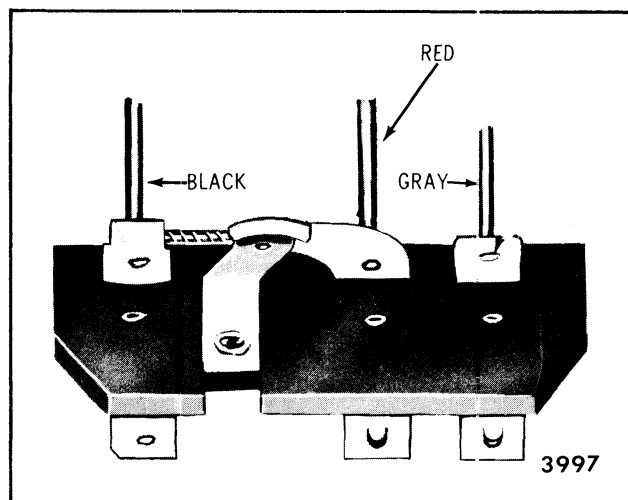

Fig. 2-14-Parking Switch and Terminal Board
1. If park switch and terminal board assembly were removed, reinstall replacement assembly using the attaching screws and nuts included in the service package. Resolder leads to terminals (Fig. 2-14).